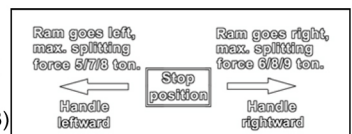

Fig. 2
- Connect the safe guard. (Fig. 2)
- Read the operation directions on the label on top of the control handle. (Fig. 2)